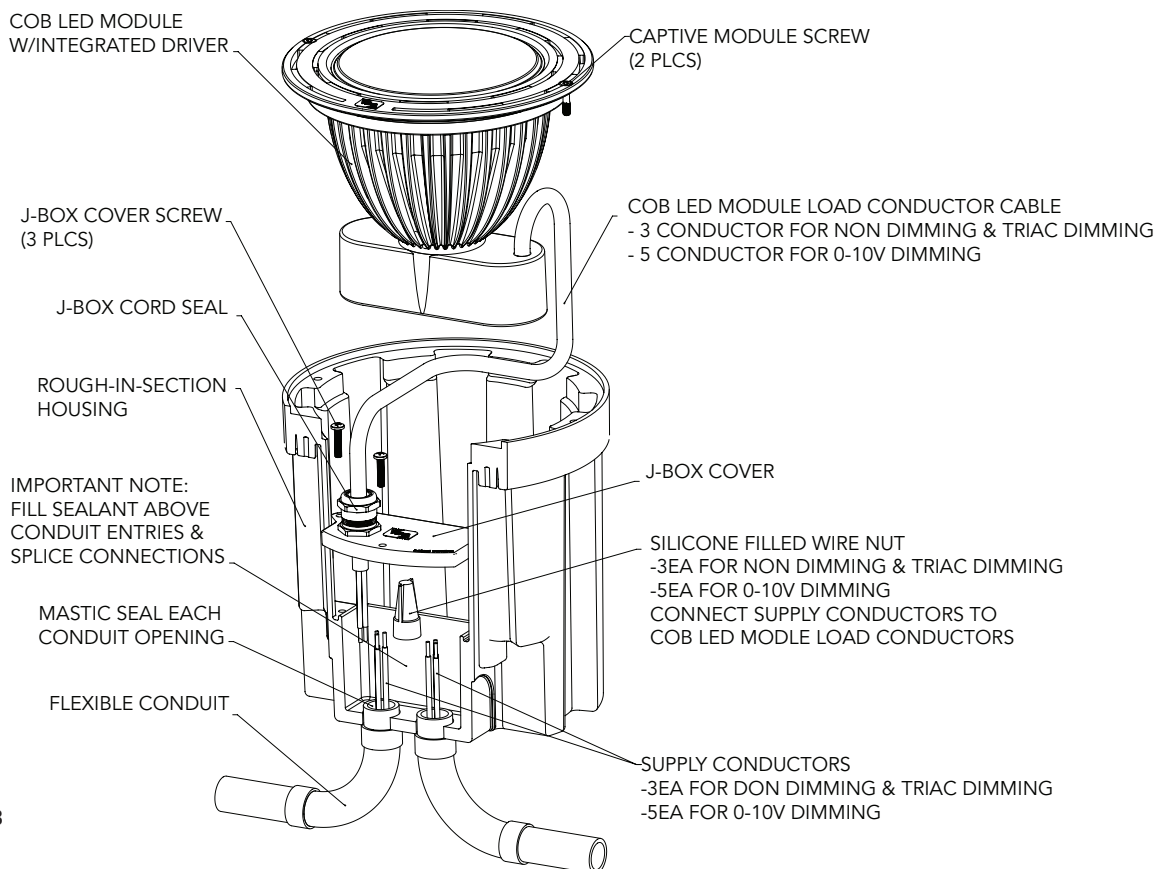

Figure 3
13. Cut off the corner of the sealant pouch and immediately pour the mixture into the wiring compartment completely covering the Silicone Filled Wire Nuts (see fig. 3). Allow sealant to dry for approximately 20 minutes.
16. Using the appropriate Allen wrench (provided), snug the two (2) Captive Module Screws (do not over-tighten).